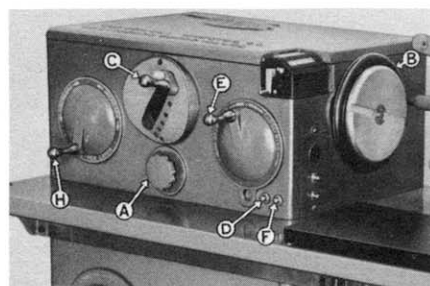

Fig. 1
Fig. 1. Felt strips placed over metal brake band reduce fine wire breakage on coil winders equipped with strap-tensions. Optional on new winders; applicable to winders in use by slight adjustments.
Pull out the range selector knob (A, Fig. 1) and turn it toward the range for the wire size to be wound. At the same time, slowly turn the handwheel (B) until the pin on the inside face of the knob drops into the locating hole.
2. Pull out the wire size selector handle (C) and move it until it is opposite the number on the plate that corresponds to the wire size called for in the specifications. Set the handle in the locating hole. To do this, it may be necessary to rotate the handwheel (B) slowly until the handle drops into the locating hole.